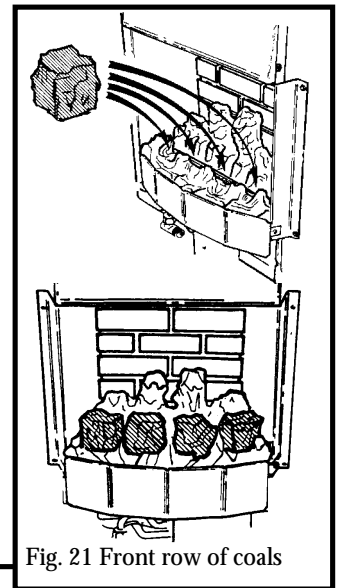

Fig. 21 Front row of coals
11.4.1 Select the two smallest coals and put them aside until all the other coals are installed. Place four of the medium size coals in the four valleys of the front coal. Place the left side coal so that the pilot flame will be visible. (See figure 21).